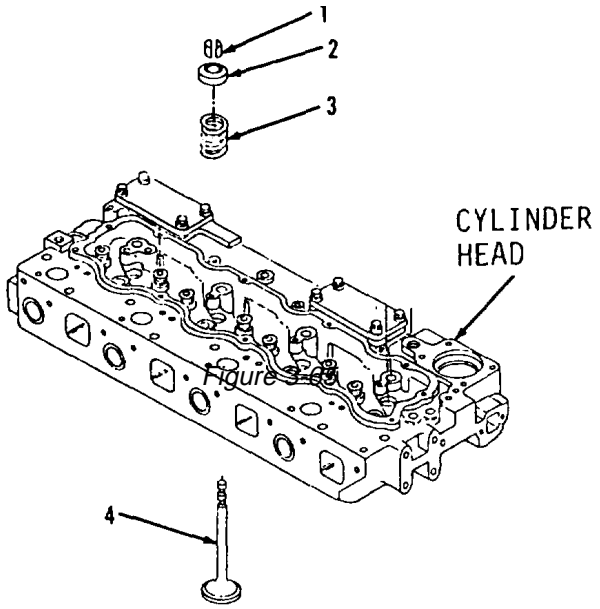

Figure 3-65.
- 2. Install valve (4) and valve spring (3, Figure 3-65) in correct location in cylinder head.
- 5. Install rotocoil assembly (2) to valve (4, Figure 3-65) stem.
- 6. Position two locks (1) into grooves on valve (4) stem.
- 7. Position lock inserter on two locks (1).
- 8. Install two locks (1).